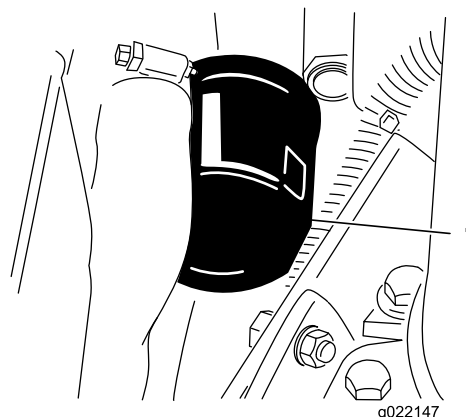

Figure 53
2. Remove the oil filter (Figure 53). Apply a light coat of clean oil to the new filter seal before screwing it on. **Do not overtighten.**